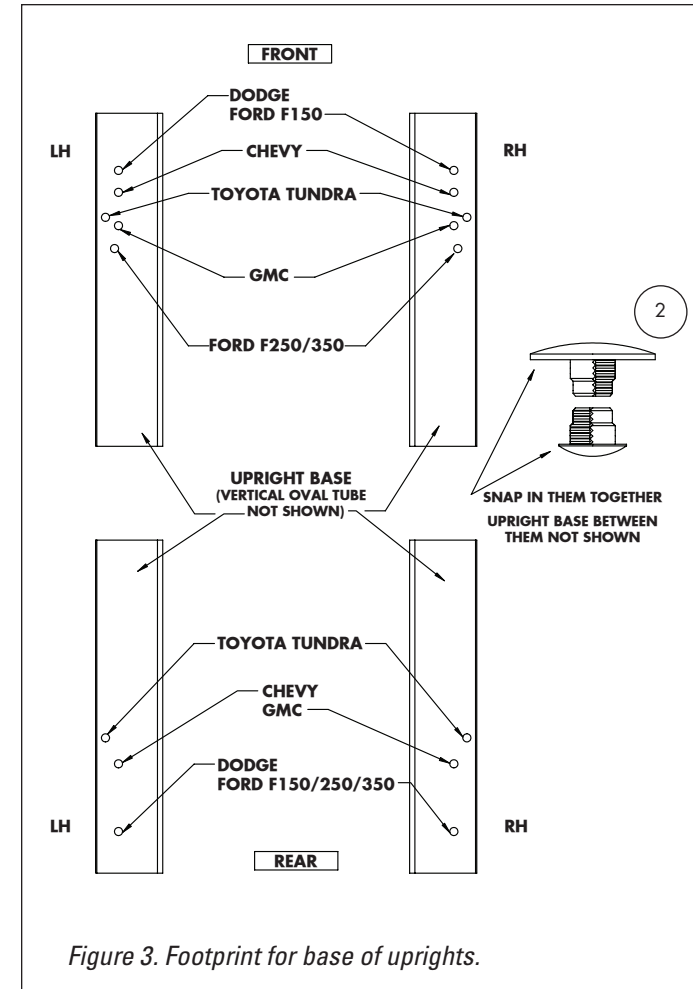

Figure 3. Footprint for base of uprights.
3. After selecting the correct hole pattern for your truck (using Figure 3), plug up all other holes using the black plastic rivets. Large rivet—on the top, small rivet—on the bottom (Figure 4).